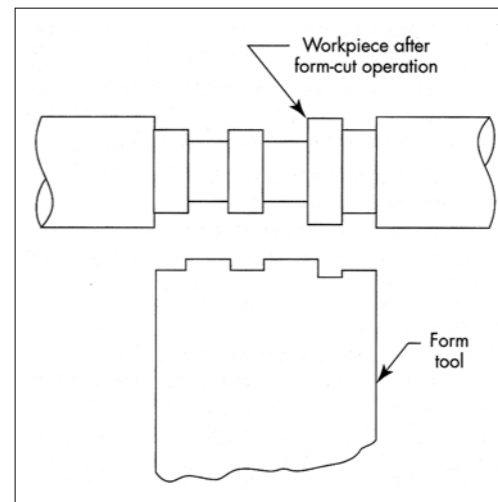

Figure 1: Since a form tool is always in the cut, there is no place for a burr to be formed except at the tool's leading and trailing edges.
- Use form tools to produce part features on a lathe (Figure 1). Because a form tool is always in the cut, there is simply no place for